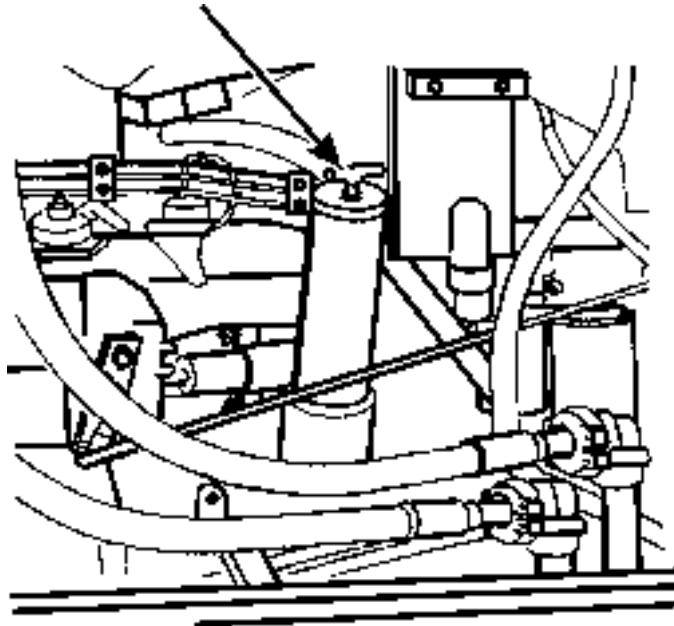

Fig. 5.15. Engine Oil Filler
6. Fill the crankcase with fresh oil (Fig. 5.15). Refer to the "REFILL SPECIFICATION AND CAPACITIES CHART".